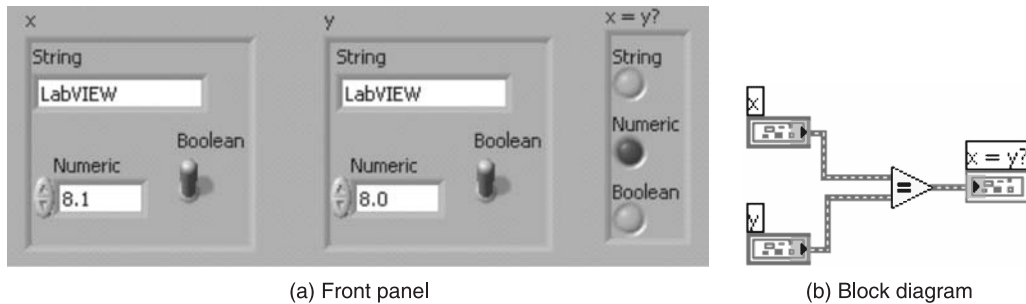

Figure P6.5
**Solution** The front panel and the block diagram to solve the problem are shown in Figures P6.5(a) and P6.5(b).